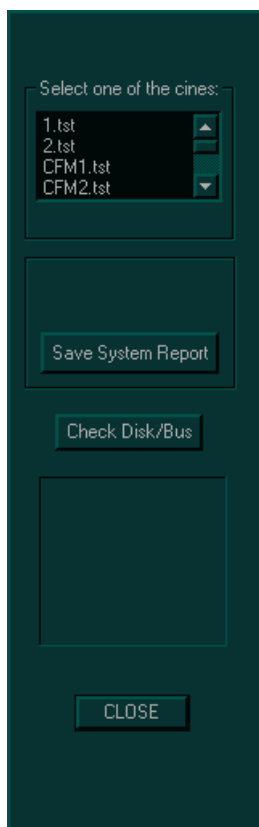

Figure 7-53 Benchmark Testing Options
- 2) Trackball to the **Computer Testing** button and press **Select**. The options shown in Figure 7-53 on page 7-79 are displayed.